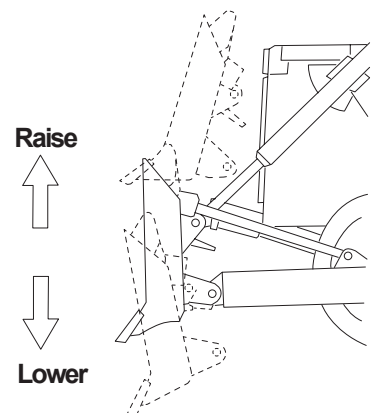

Figure 2-12
The control lever is normally in the fixed position (2). Pull the control lever to position (1), the blade is raised (Figure 2-12); and push it to position (3), the blade is lowered; continue to push it to position (4), the blade is in the floating state.